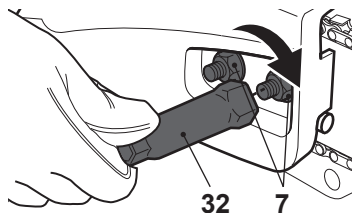

Fig. 16
- > Tighten the nuts (7) completely using the combination spanner (32) (Fig. 16).